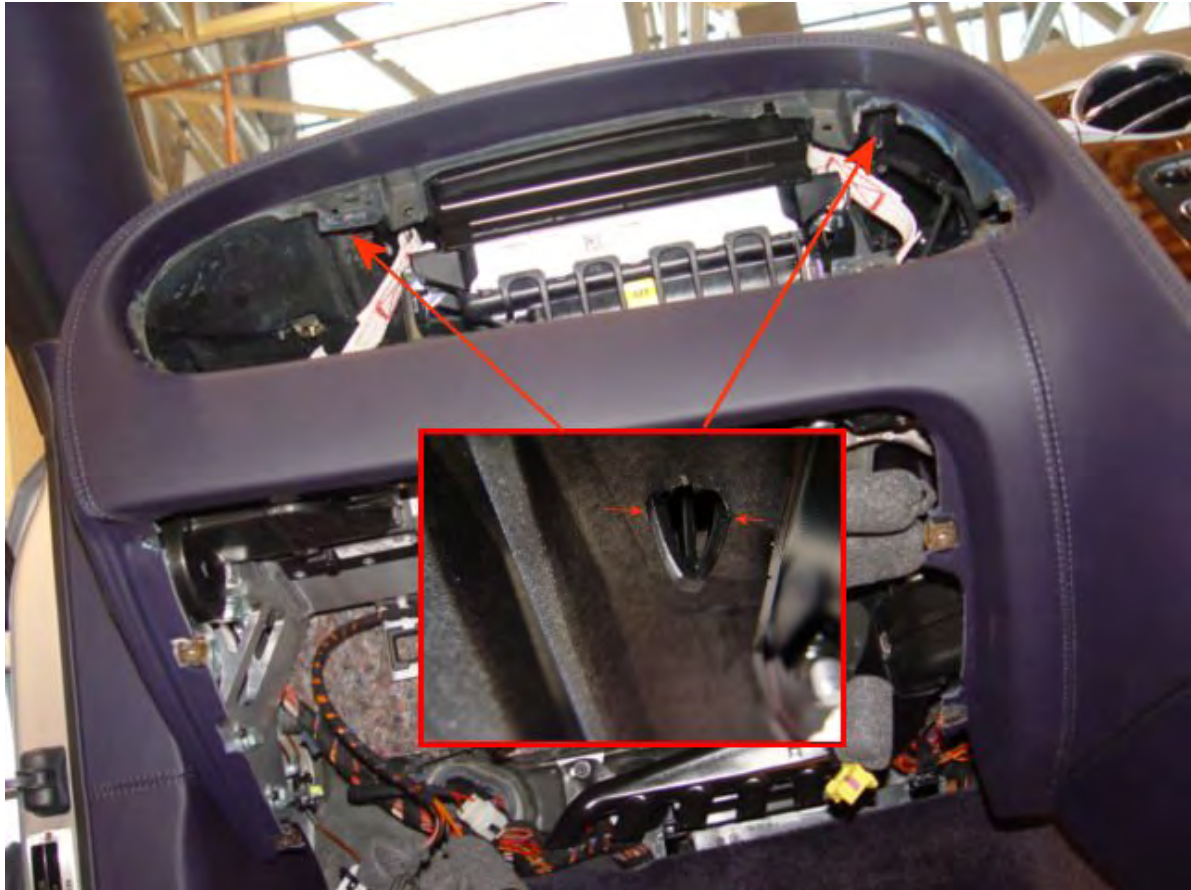

Figure 6
5. Release the two shear clips locating the front edge of the trimmed cover (see Figure 6)